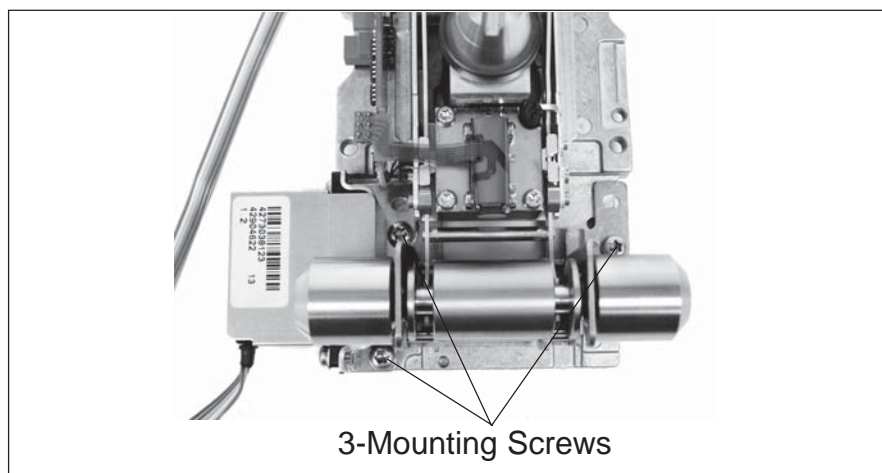

Figure 3-30. InCal Mechanism Mounting Screws.
1. See Figure 3-30 and remove the 3 screws as shown from the InCal Mechanism.